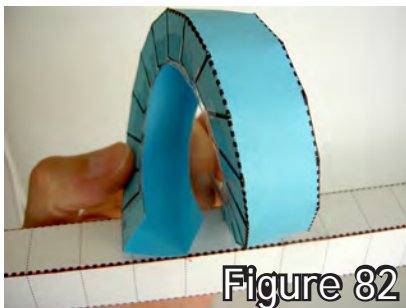

Figure 82
4. Hold the loop in the position where it will be attached. This will show you where the brackets will need to be located. (fig. 82)